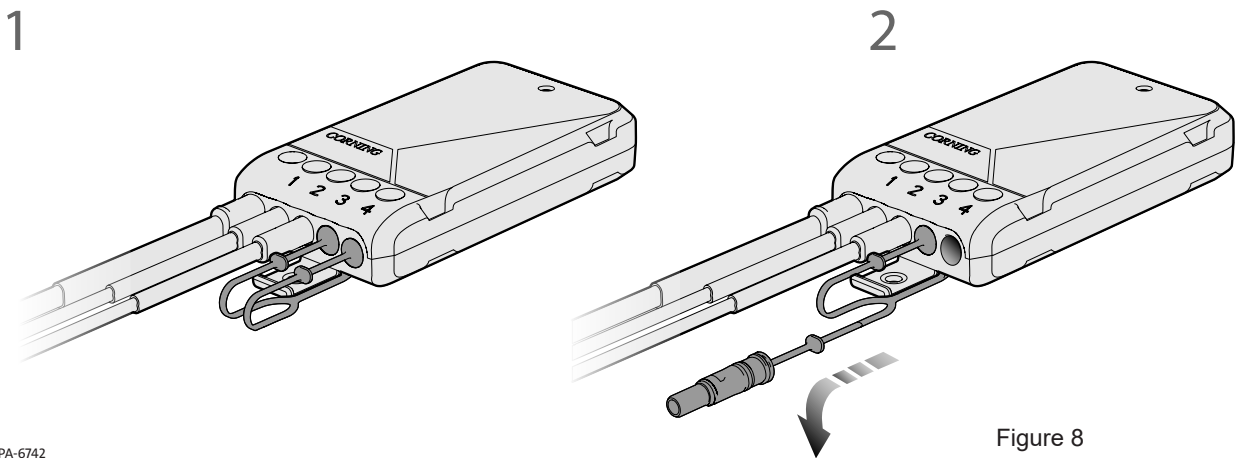

Figure 8
Step 2: Remove the protective plug from the port, where the connector will be mated (Figure 8).